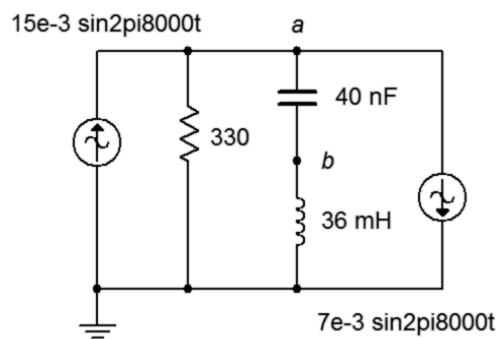

Figure 5.8
15. In the circuit of Figure 5.8, use Superposition to find v_{ab} .
16. In the circuit of Figure 5.8, use Superposition to find the current flowing through the resistor.